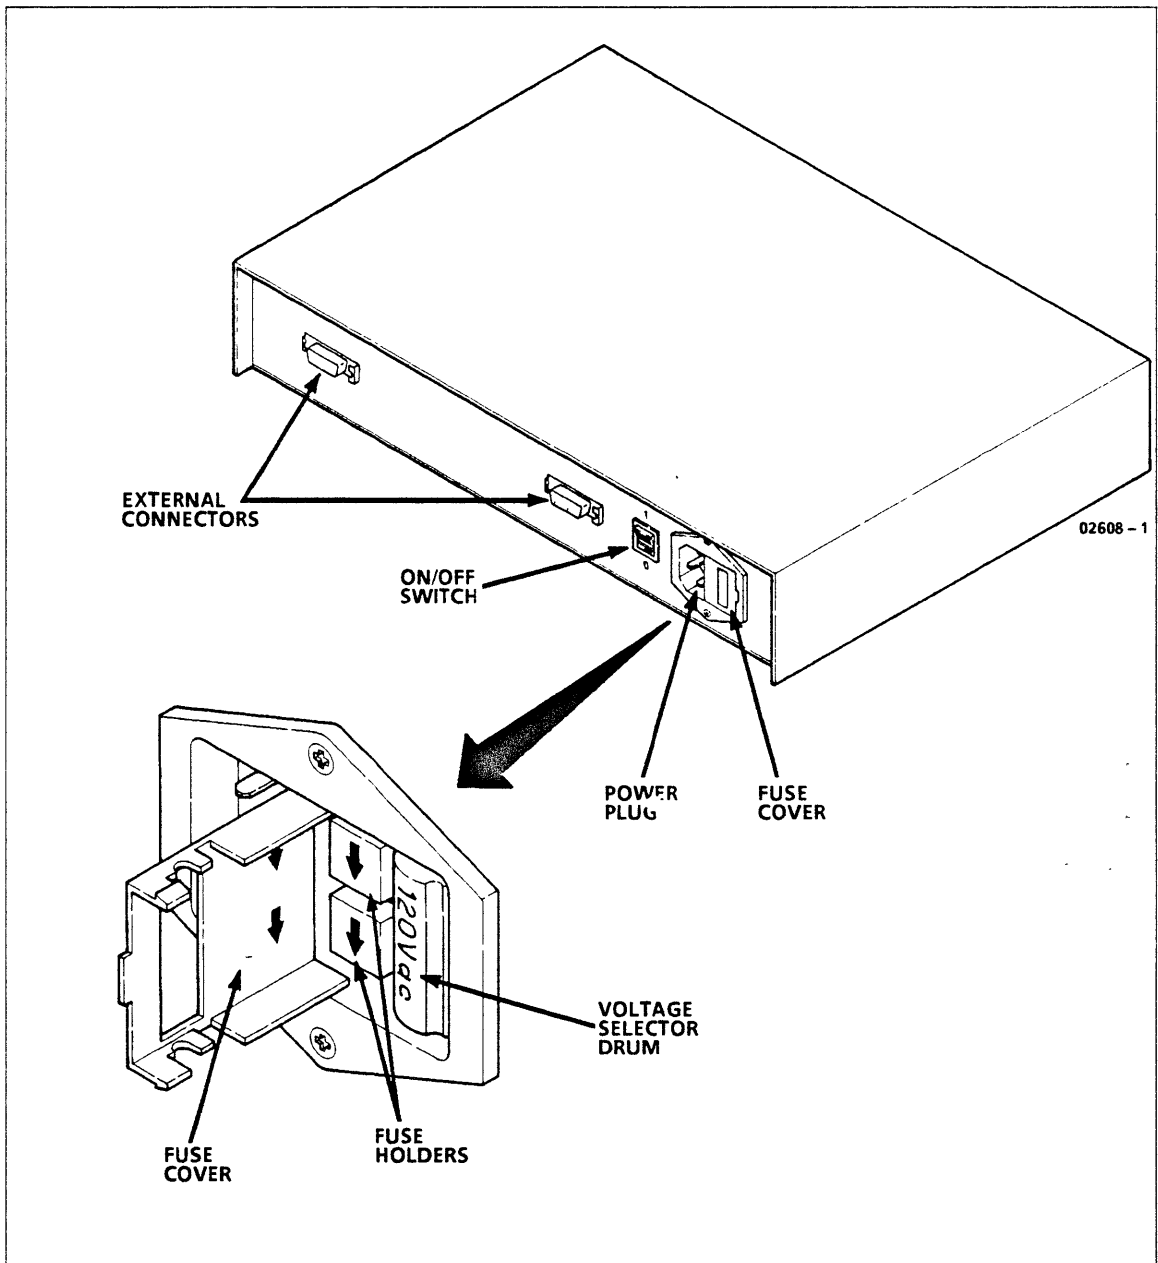

Figure 2-10. Repeater Voltage Selection
- b. Using small screwdriver, pry open righthand side of fuse cover. Figure 2-10 shows voltage selector drum and fuse holders.